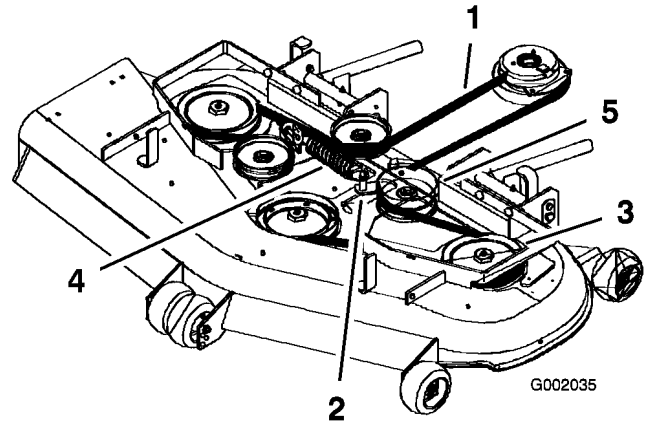

Figure 46
Note: Start at the outside pulley and rotate the belt off (Figure 46).
8. Install the idler pulley and route the belt onto the other pulleys (Figure 46).